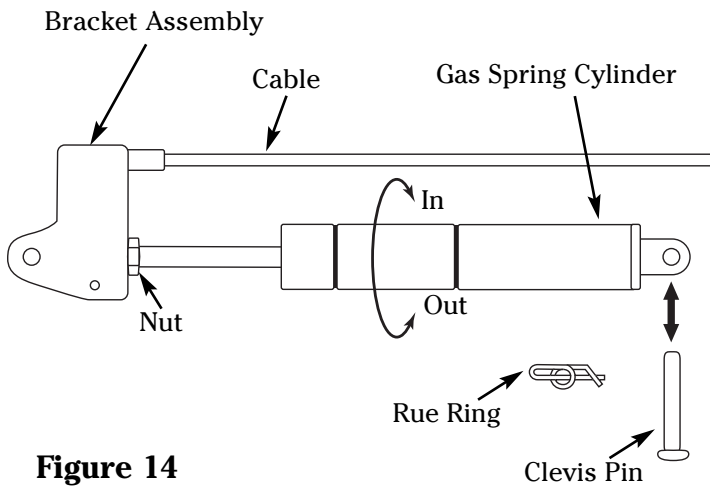

Figure 14
2. Loosen the nut above the gas spring bracket. Rotate the gas spring out of the bracket (counterclockwise) 1/2 turn. Retighten nut on bracket, and reassemble the gas spring back to the frame. Check that cable is snapped into bracket (See fig. 14).
4. Loosen the nut above the gas spring bracket. Rotate the gas spring into the bracket (clockwise) 1/2 turn. Retighten nut on bracket and reassemble the gas spring back to the frame (See fig. 14).